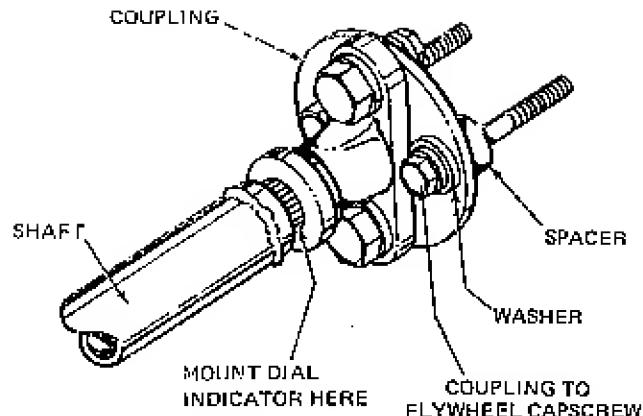

Figure 16. Rear PTO Coupling Installation
7. Loosely attach coupling (Figure 16) to flywheel through upper input pulley with two 3/8 16 x 3 1/2" inch capscrews, washers, and spacers. Apply Loctite to capscrews before installation.
8. Using a dial indicator, check shaft (Figure 16) for runout of no more than 0.025" of an inch at location indicated in Figure 16.